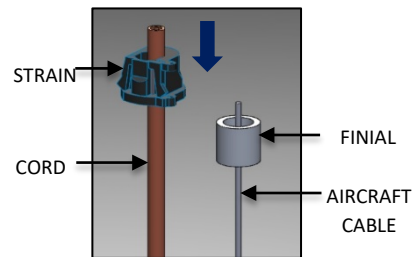

FIG. 21 - STRAIN RELIEF
- Pass the FINIAL and the STRAIN RELIEF through the AIRCRAFT CABLE and CORD, respectively. Adjust the STRAIN RELIEF as needed to get the desired CORD length as shown in FIG. 21 below.